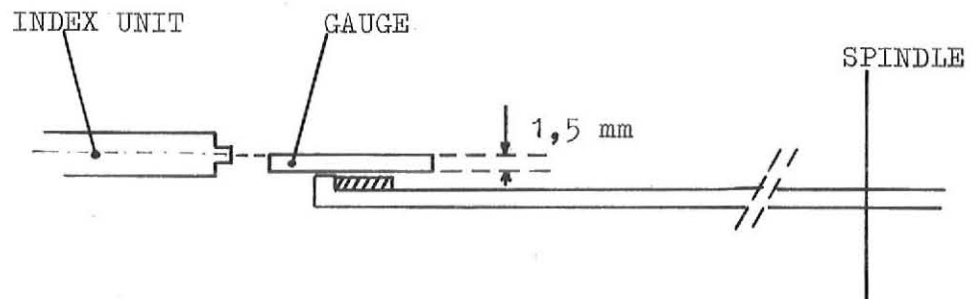

Fig 7-25
2. Adjust the height of the index unit sec fig 7-25